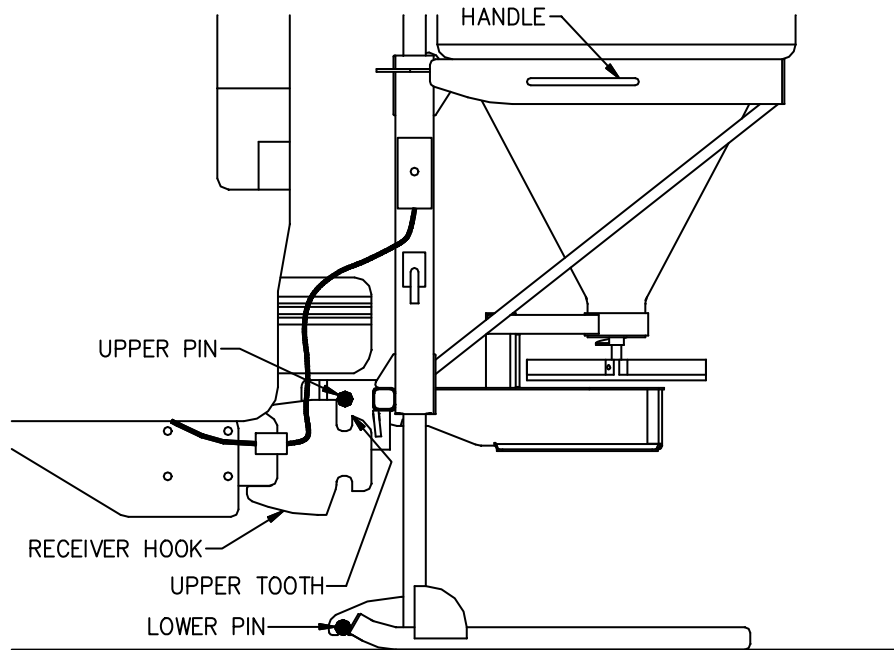

Figure 7.
- 3) Position the spreader in line with the receiver hook as shown in Figure 7. This can be done by either backing the truck up or moving the spreader by grabbing the handles on the sides.
- 2) Lower the Leg Assembly by pushing UP on the toggle switch. Hold the toggle switch UP until the upper pin clears the upper tooth on the receiver hook. Refer to Figure 7.